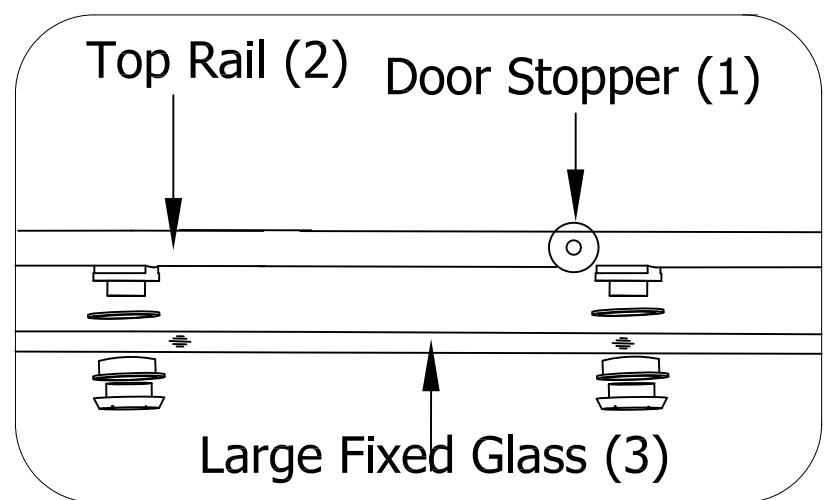

Fig. 8
8. Position the Top Rail (2) and Large Fixed Glass (3) as shown in Fig.8 and connect Large Fixed Glass (3) to Top Rail (2) following the assembly sequence shown in Fig.8. Note in Fig.8, one Door Stopper (1) should be positioned between mounting holes in Top Rail (2) before connecting Top Rail to Large Fixed Glass.